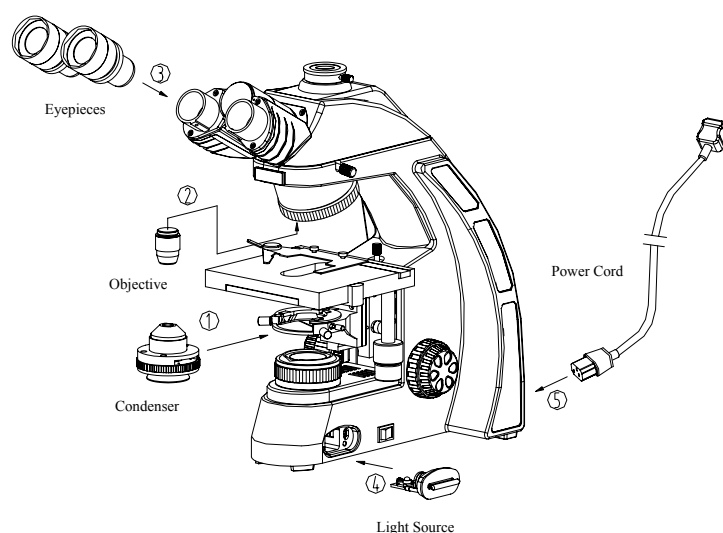

Figure 1.
4. Install the objective lenses (see Figure 1). To avoid touching the surface of the lens, wear clean gloves. Ensure that the stage is in its lowest position. Install the objective lenses so that as the nosepiece rotates in a clockwise direction it moves from low to high magnification. Avoid touching any of the lens surfaces with bare hands as dust, dirt or fingerprints can damage the lens or adversely affect image quality.